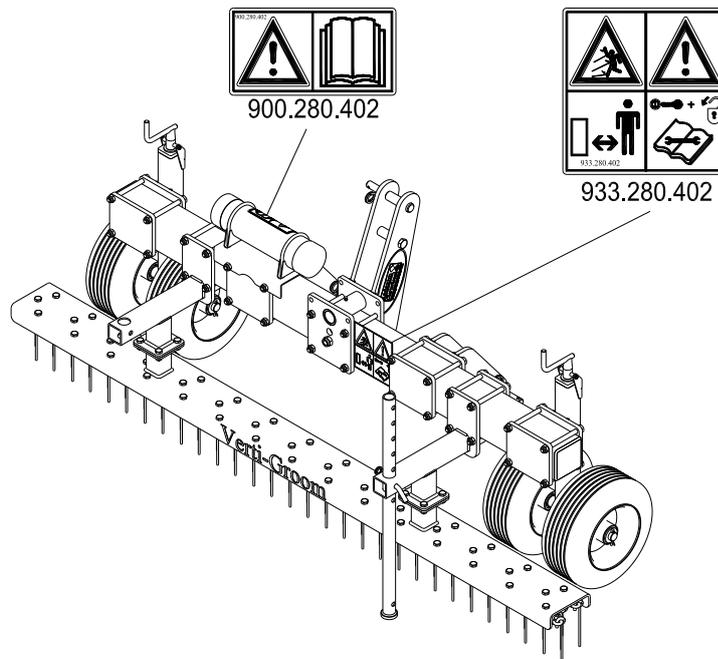

Fig. 5
Safety stickers (Figs. 2, 3, 4) with the same meaning are present on both sides of the Verti-Groom (Fig. 5). Ensure these safety stickers are always clearly visible and legible. Replace them if they are damaged.
(7) Location of safety stickers (Fig. 5).